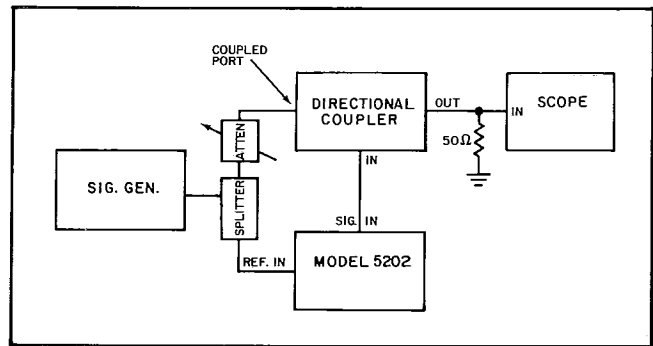

Figure V-1. VSWR MEASUREMENTS SETUP
- (1) Configure the system as shown in Figure V-1. The signal generator output should be 1 MHz. If separate signal and reference outputs are not provided, use splitters and attenuators as required to maintain proper Model 5202 reference channel operation while setting the signal input to the Model 5202 to the specified level. Be sure to use 50 Ω cable throughout and to terminate the scope input in 50 Ω if the scope input impedance is not already 50 Ω .
- (2) Set the Model 5202 Sensitivity switch to 25 mV. The Model 5202 FREQ. RANGE switch should be set to 0.8-1.6 MHz and the signal generator output frequency should be 1 MHz.
- (3) Adjust the signal generator output for some deflection of the Model 5202 panel meters. Then carefully adjust the Model 5202 Phase controls for exactly "0" on the QUADRATURE panel meter. This will correspond to maximum deflection at the IN PHASE meter. When the Phase adjustment is finished, adjust the signal generator output for exactly full-scale indication at the lock-in IN PHASE meter.
- (4) Set the Model 5202 Sensitivity switch to 100 μV . The instrument will go into overload. This is as it should be.
- (5) Read and record the peak-to-peak amplitude of the scope display. It should be less than 7 mV pk-pk.
- (6) Repeat this procedure at each of the following frequencies. At each, select the bracketing FREQ. RANGE setting, and, with the Sensitivity switch set to 25 mV, adjust the Phase controls as described in step 3 above. Then reduce the sensitivity setting to 100 μ V and note the pk-pk amplitude of the displayed signal. It should be less than 7 mV pk-pk in each case. The test frequencies are: 0.1 MHz, 0.3 MHz, 3 MHz, 10 MHz, 20 MHz, 40 MHz, 50 MHz. When the measurements are completed, disassemble the setup to where the lock-in amplifier is a free-standing instrument again.